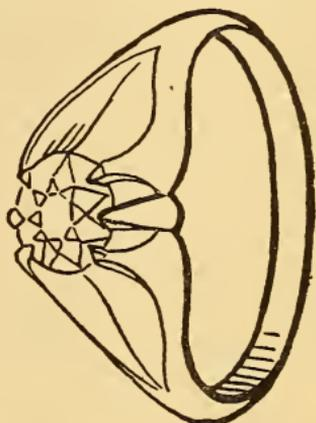

FIG. 54. THE LEAD IN THE PENCIL AND THE DIAMOND IN THE RING ARE BOTH CRYSTALLIZED CARBON (C)
*Graphite* is, next to the *diamond*, the purest kind of carbon (C). Graphite is so soft that it is used for lubricating machinery while diamond is the hardest substance known, yet both are crystallized forms of carbon. Two chief uses of these forms of carbon are shown in Fig. 54.
*Matches* are of two kinds. *Common matches* are made by tipping the splints with sulphur (S) or